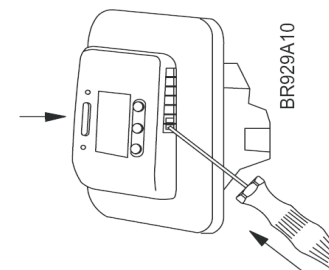

Fig. No.3
- Release the front cover ONLY by inserting a small screwdriver into the air grills on both sides of the thermostat (see Fig. No 3). **DO NOT** open the thermostat by releasing the four fixing clips on the back.